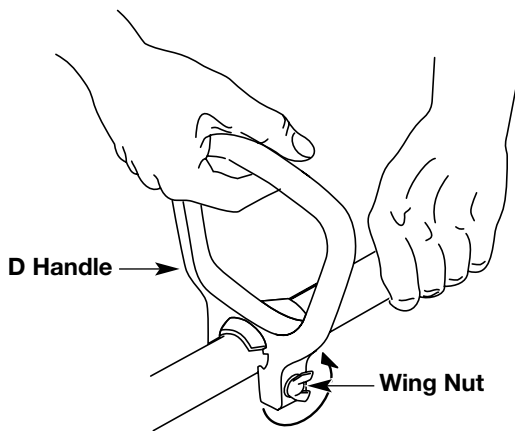

Fig. 2
2. Loosen the wing nut (Fig. 2). It is not necessary to remove the wing nut, washer or bolt.
3. Position the D-handle to the location that provides you the best grip, and tighten the wing nut (Fig. 2).